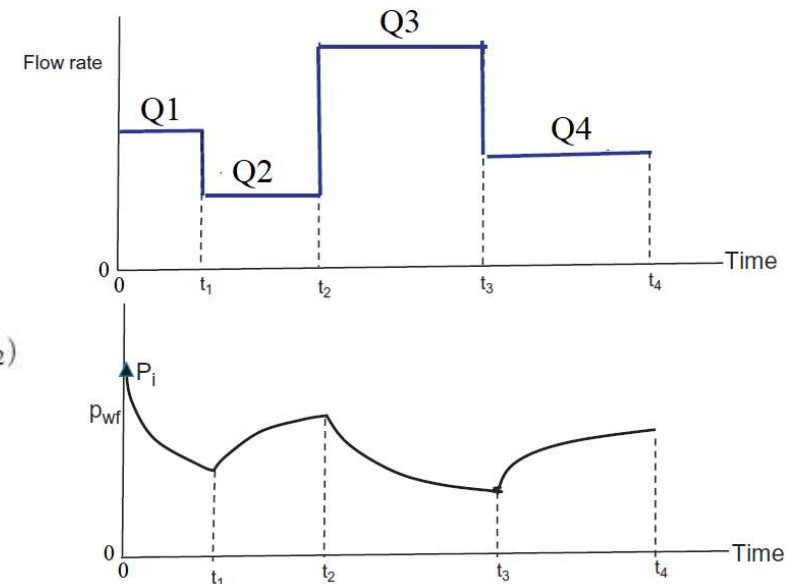

Figure 3: Production and pressure of an oil well at variable flow rates
- Consider the case of a shut-in well, i.e., $Q = 0$, that was then allowed to produce at a series of constant rates for the different time periods shown in Figure 3.